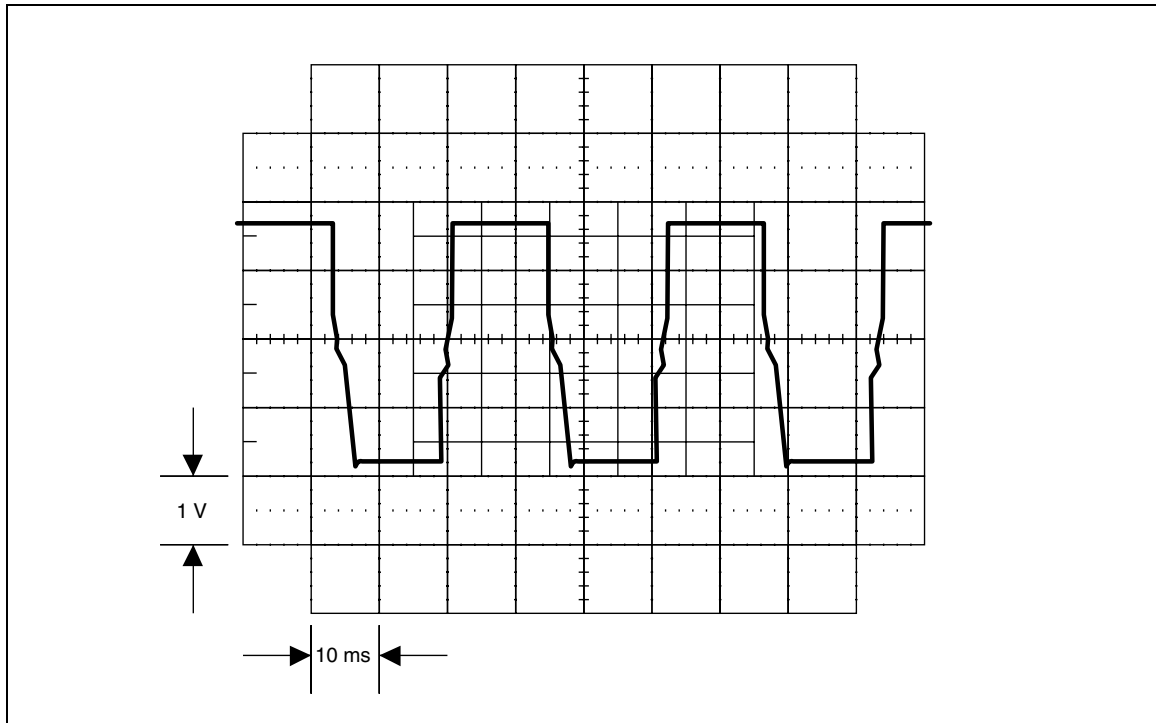

Figure 5-16. Waveform at Pin 13 of U6
1. Check the +8A and -8A power supply for the two-wire comp. circuit. Set the Calibrator to 100 Ω , operate, and turn the two-wire comp on. Using a DMM measure the dc voltage at TP8 (common to TP7) and verify it is +8.2V $\pm 5\%$. Next, measure the dc voltage at TP9 (common to TP7) and verify it is -8.2V $\pm 5\%$. If these supply voltages are correct skip to step 2. If a failure is detected, first connect an oscilloscope to pin 16 of U6 with the scope common connected to pin 13 of U6. Set the oscilloscope to 5V/div at 10 us/div and verify it displays a waveform similar the Figure 5-16. If a failure is detected, check U6, Q5, Q6, Control line PB7, and associated components. If this signal is correct then check T1, CR1, CR2, CR9, CR10, VR1, VR2, and associated components.